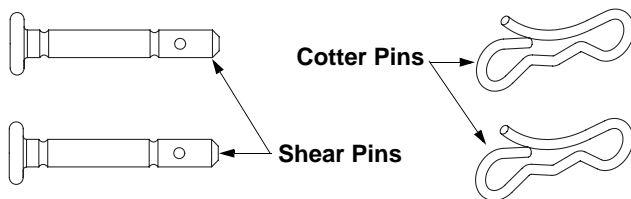

Figure 1
- The augers are secured to the auger shaft with two shear pins and bow tie cotter pins. If you hit a foreign object or ice jam, the snow thrower is designed so that the pins may shear. Two replacement shear pins and cotter pins are provided for your convenience. See Figure 1. Store these safely until needed.